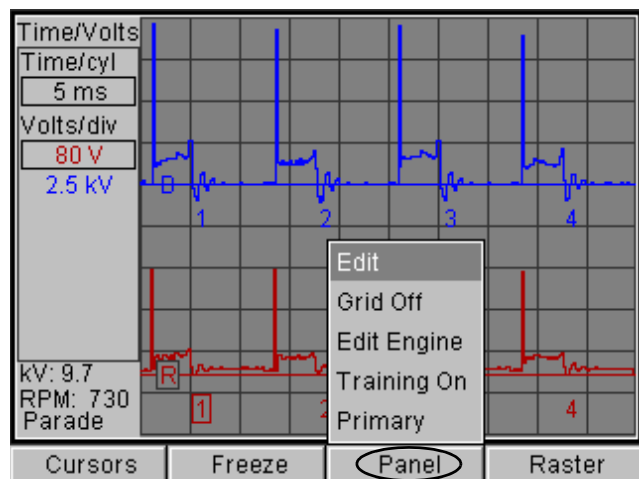

Figure 8.33: Ignition Scope Screen, DMM Off - Panel Function Key
- When a menu option is selected, the background is grey and the letters are white, as shown for “Edit” in Figure 8.33.